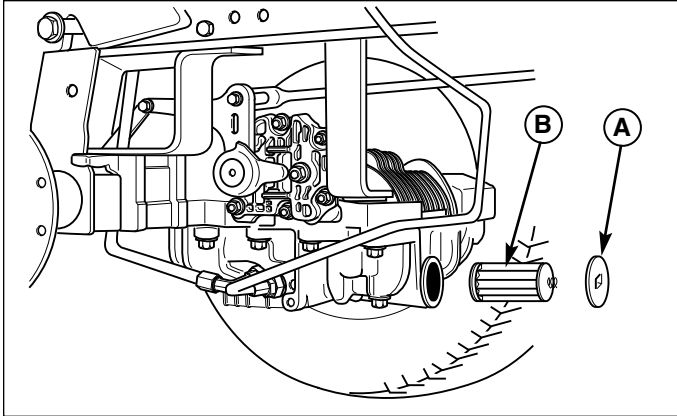
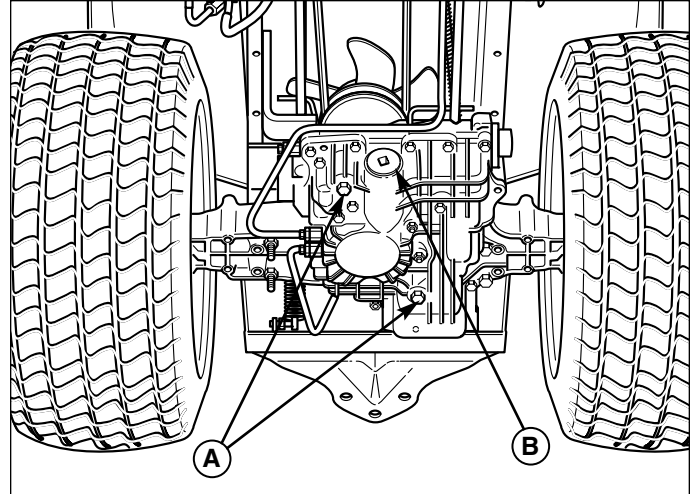

Figure 36. Internal Transmission Filter Service
Figure 37. Transmission Drain Plugs
5. Remove and replace the internal transmission filter (B, Figure 36).
6. Reinstall the filter access cap (A, Figure 36) and the two 14mm drain plugs (A, Figure 37).